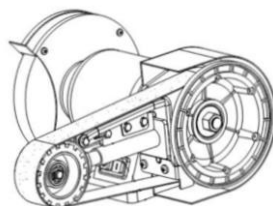

Fig. 10
7. Once completed, it should resemble Fig. 10.